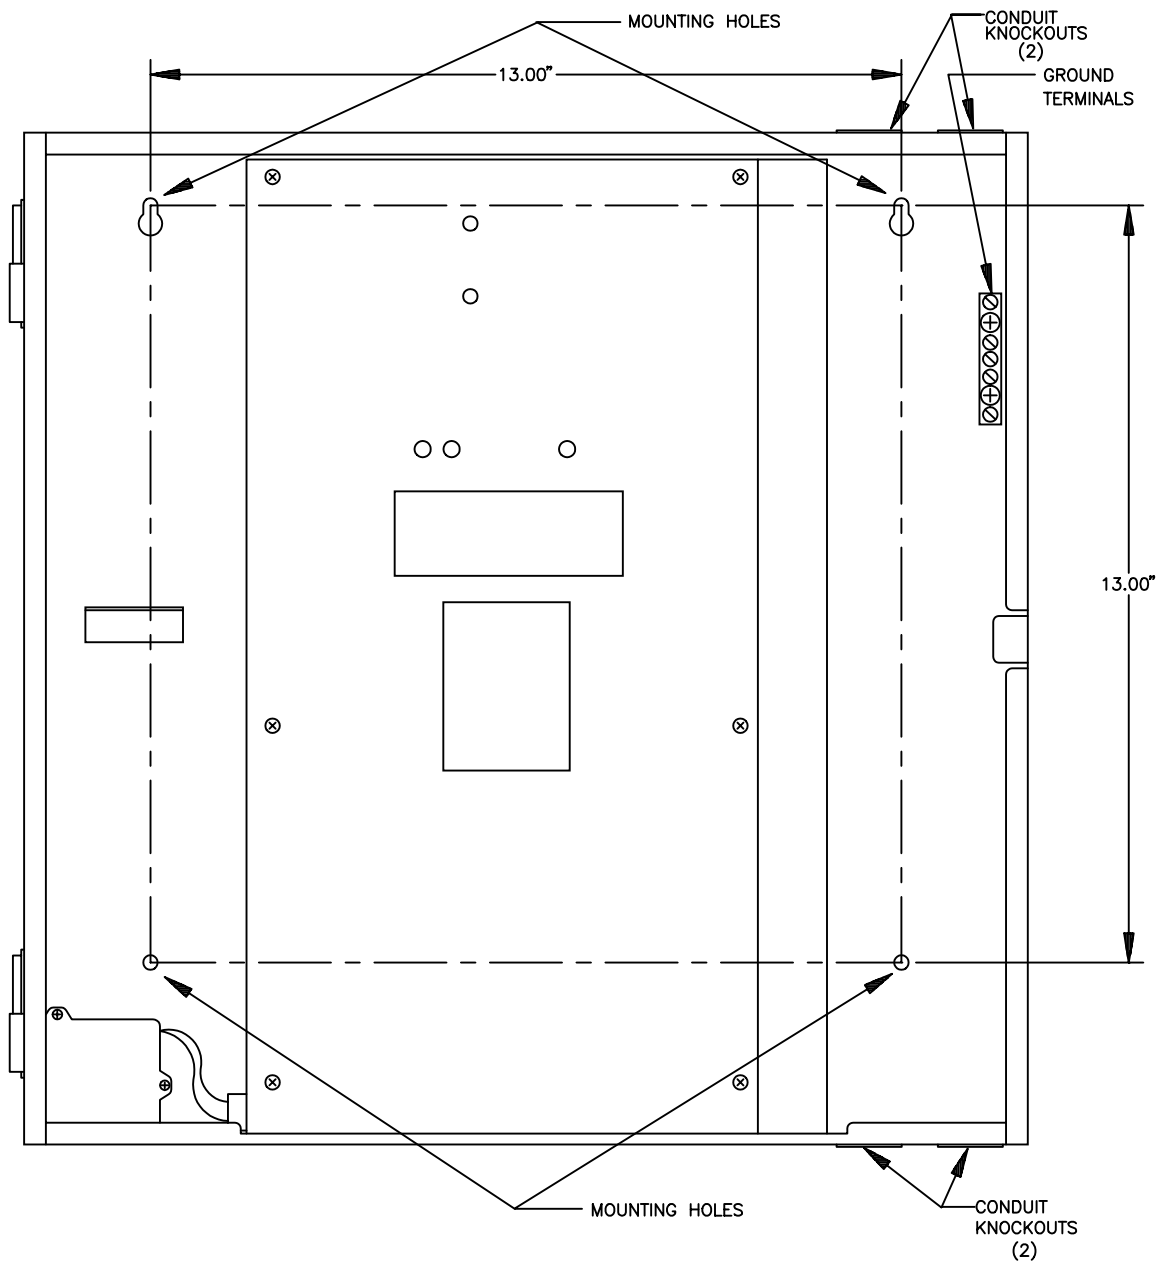

Figure 3.
The shield of each cable should be connected only at one end. Each shield of each cable that connects to the Series DV-200 is to connect to the grounding points provided near the knockout locations on the chassis (see Figure 3).
Refer to Figure 3 for Series DV-200 mounting hole layout. Drill mounting holes for appropriate screws and anchors to ensure secure mounting to the type of surface at the selected location. Keep out dust and dirt during installation. Dust and dirt can interfere with the operation and reduce the life of the equipment.
- 1) Connect a wire between the ground screw on the printed circuit board and the ground terminals on the enclosure. See Figure 8 for location of the ground screw (labeled "EARTH GND") on the printed circuit board and Figure 3 for the location of the ground terminals on the enclosure.